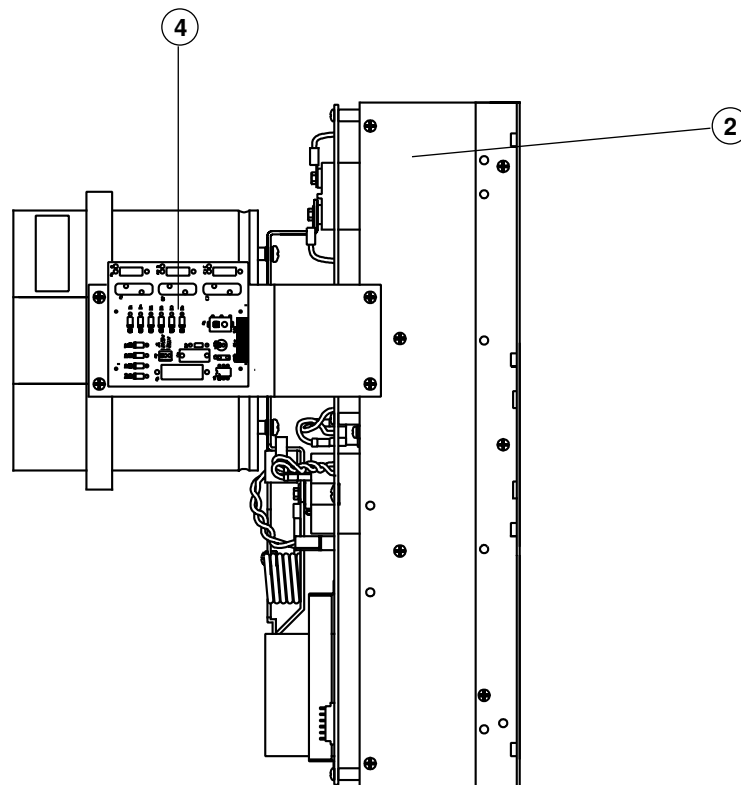

Figure 9-6A Chopper CH2 – Right Side
See Figure 9-6A for detail of item 2 (CH2), right side.